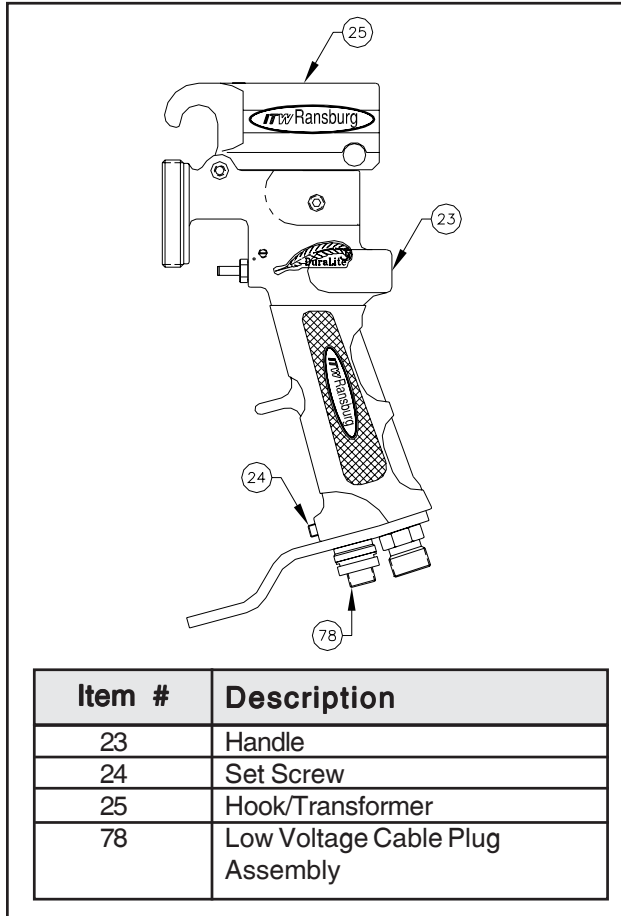

Figure 20: Low Voltage Cable Plug Removal
(Refer to Figure 20)
3. Use a 3/32-inch hexagon Allen wrench to loosen (DO NOT remove) the set screw that retains the low voltage cable plug assembly to the handle. The set screw is located toward the bottom of the handle on the front side (see Figure 20).